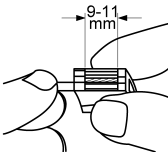

Figure 6: Stripping length
- Strip 9 - 11 mm of the cable (Figure 6).